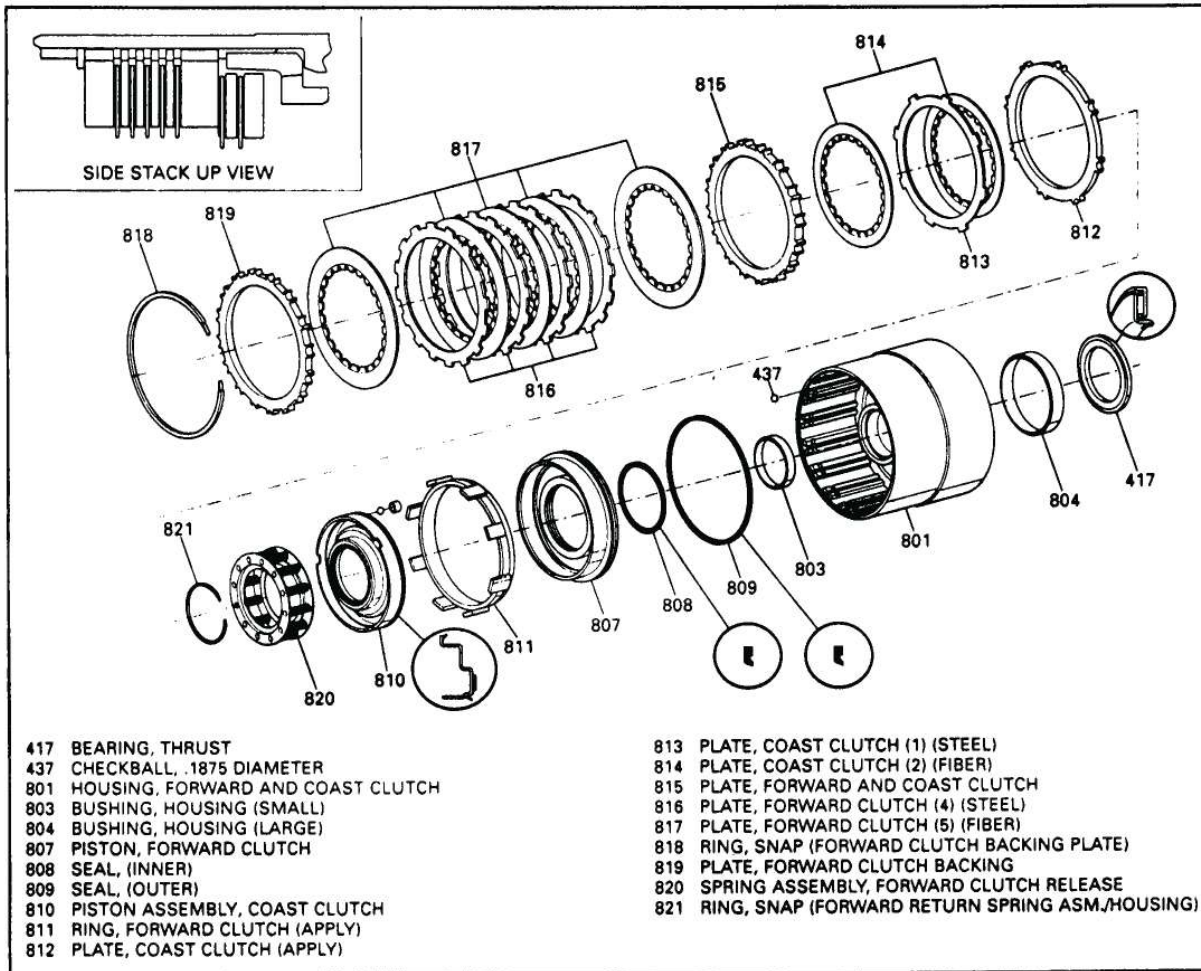

Figure 75
1. Install new inner and outer lip seals onto forward clutch piston with lips facing down, as shown in Figure 75.
(See Figures 75 and 78).
8. Install return spring assembly (820) as shown in Figure 75.
12. Install coast clutch apply plate (812), as shown in Figure 75. See inset in Figure 75 for clutch plate stack-up.
13. Install coast clutch lined plates and 1 steel plate as shown in Figure 75. (See Inset).
14. Install forward clutch apply plate (815) on top of last lined coast clutch (See inset in Figure 75).
15. Install forward clutch plates beginning with a lined plate and alternating with steel plate (See inset Figure 75).
16. Install forward clutch backing plate (819), and backing plate snap ring. (See Figure 75).
18. Install thrust bearing onto hub of the support. Use the inset in Figure 75 for proper direction of bearing.